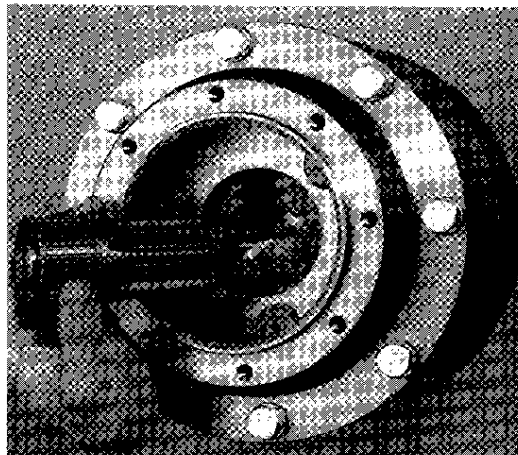

Fig. 12
26. Turn unit over and support, shaft down. Lubricate intermediate gear and small planet carrier assembly, place gear in mesh with large planet gears. (Fig. 12) Lubricate 'O' rings (27). Place one 'O' ring onto pilot of transition plate (20). Note: Check for sharp edges or burrs on pilot.
28. Place small internal gear (26) into mesh with planet gears (35) of small planet carrier assembly. Line up holes in small internal gear with holes in transition plate (20).
29. Place other 'O' ring (27) on pilot of motor adapter (28).